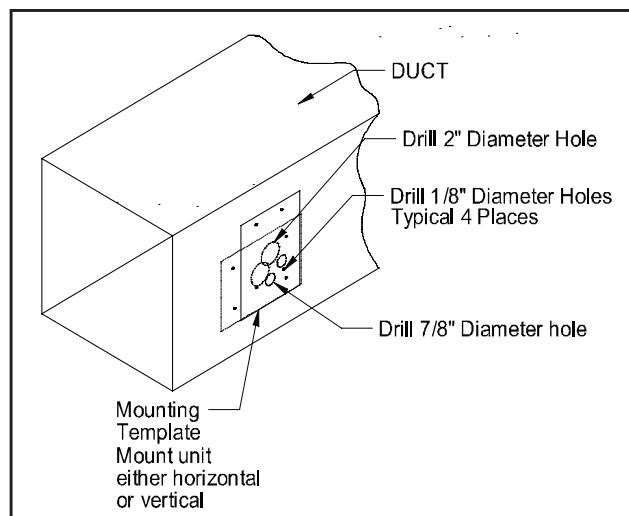

Figure 2B
- Apply supplied wet and stick mounting template to air duct in either a vertical or horizontal position as shown in Figure 2B.
- Cut out the marked openings on the template. (Refer to template as shown in Figure 2B)
- a. Mount the supplied metal mounting plate onto the duct with duct tape in either a vertical or horizontal position. (See Figures 2B & 3)